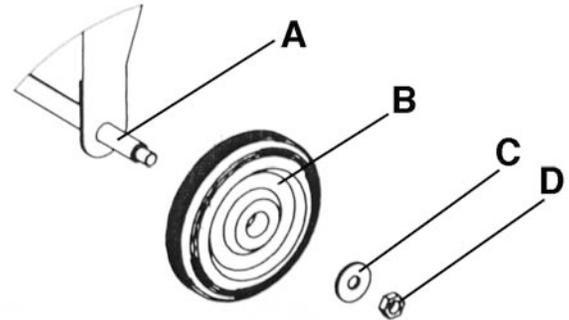

FIGURE 4
Before operating the log splitter, it is necessary to fit both wheels on the supporting shaft. Slide a wheel (B) Fig.4 onto the shaft (A), block it using the large washer (C), and fasten using the nylon hex. nut (D). Repete on the other side.